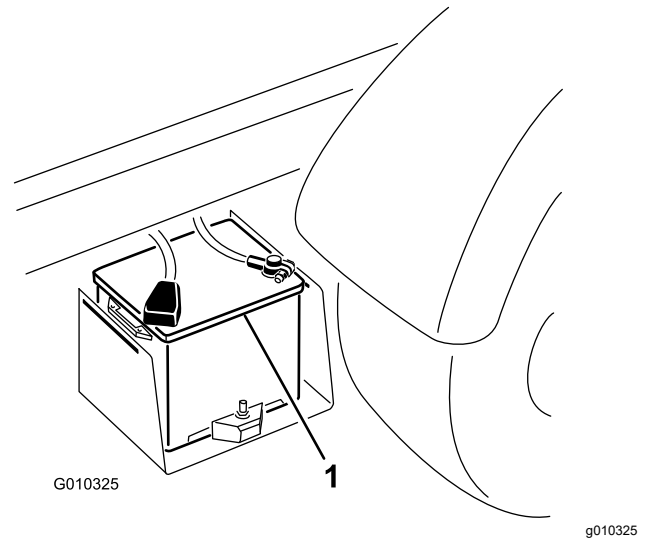

Figure 52
2. Connect a jumper cable between the positive posts of the 2 batteries (Figure 52).